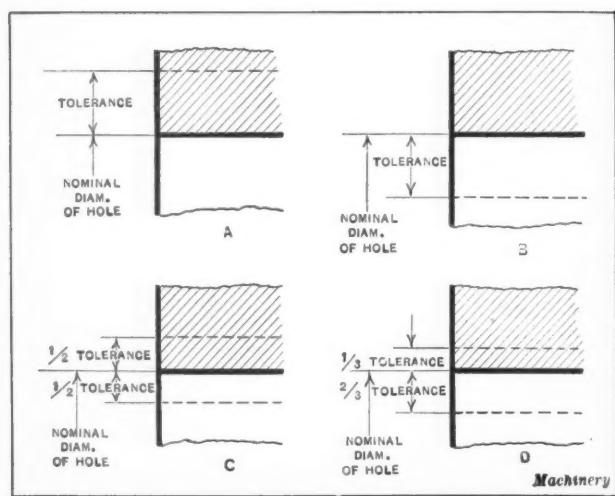

Fig. 1. Diagrams representing (A and B) Unilateral Tolerances; (C) Bilateral Tolerance; (D) Uni-bilateral Tolerance
If some part, such, for example, as a hole has a nominal or basic size of, say, 1 inch, it is evident that the total tolerance, according to specifications on drawings, may be (1) added to the nominal size, as at A, Fig. 1; (2) deducted from the nominal size, as at B; or (3) divided relative to the nominal size, so that part